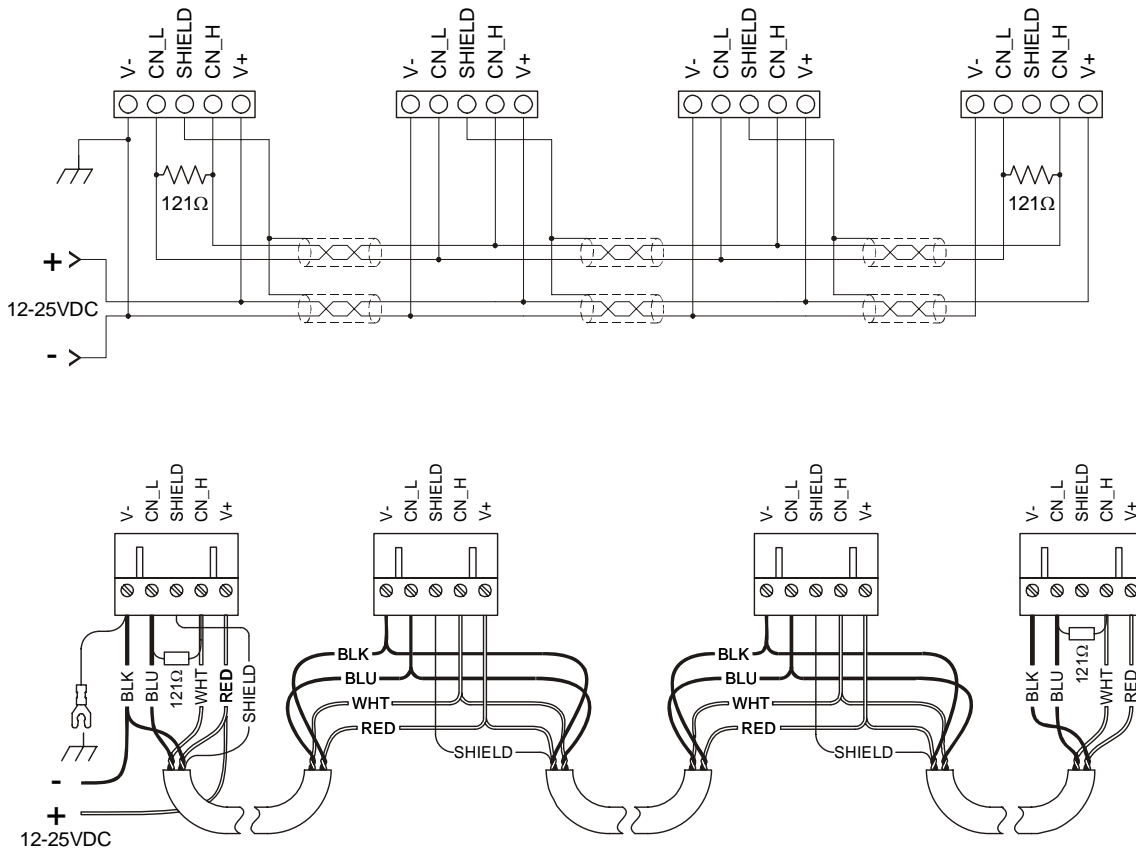

Figure 14 – CAN Wiring
c. **CAN Wiring Rules** (See Figure 14)
4. To ground the cable shield, connect to pin 3 as shown in Figure 14.